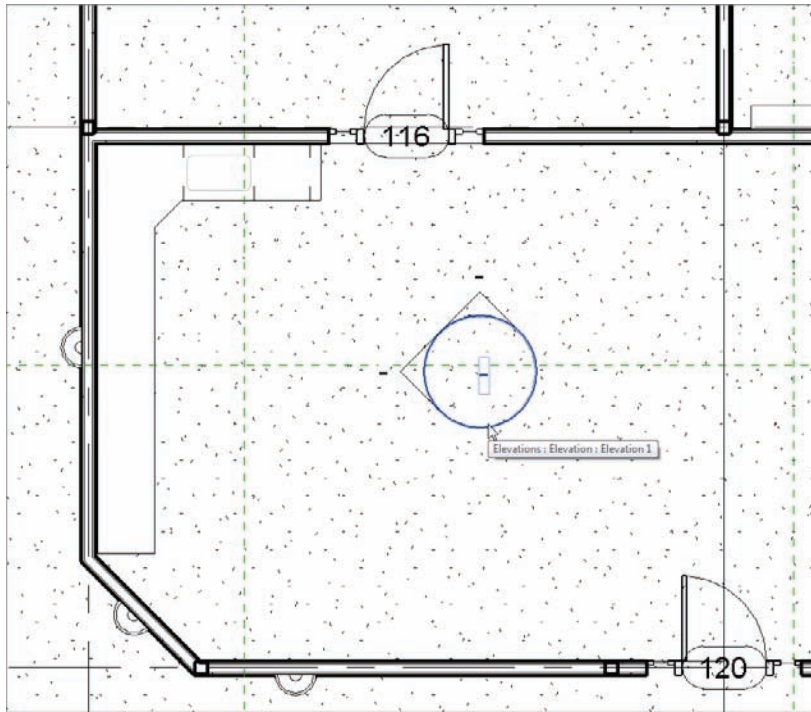

FIGURE 9.58 Adding elevations to aid in design
2. Add an interior elevation looking north, as shown in Figure 9.58.
3. Select the elevation marker and turn on the elevation looking west (see Figure 9.58).